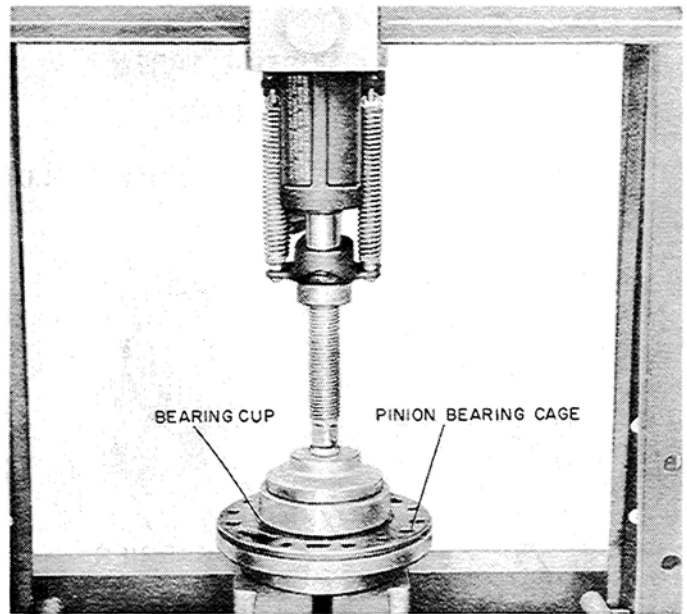

Figure T-53
3. If new bearing cups (one on each side) are to be installed, press them into the bearing cage until the cup bottoms against the shoulder in cage, Figure T-53.